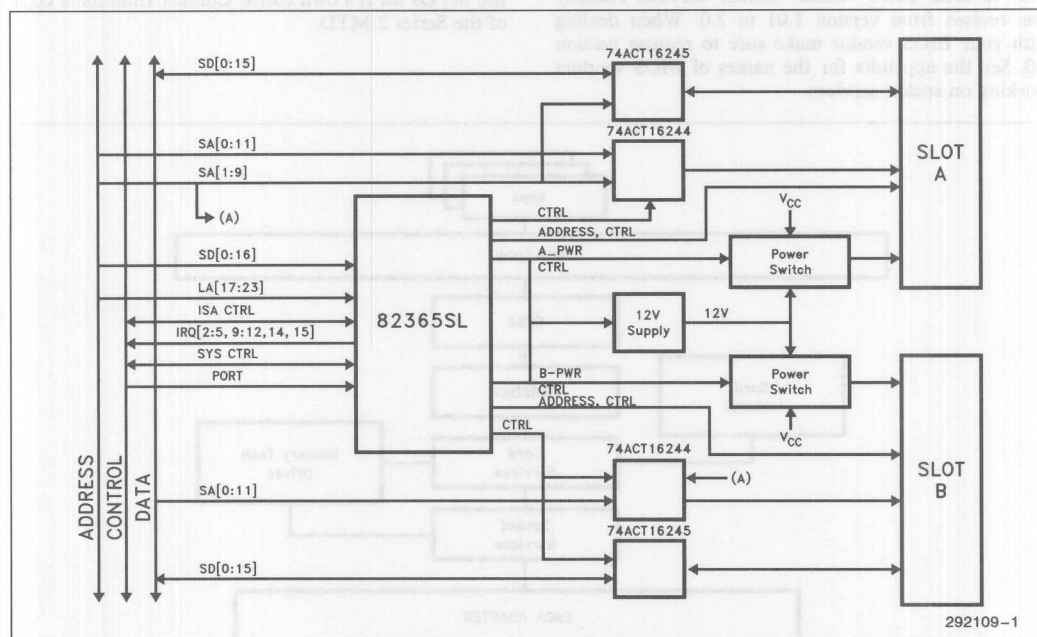

Figure 1. A Buffered, Two-Socket Implementation of the 82365SL
The PCIC interfaces the ISA bus to the PCMCIA socket, and handles interrupt steering, memory and I/O window mapping, and power management. A schematic for creating two fully buffered sockets is found in the 82365SL™ datasheet and is included here as Figure 1.(1)
If the design follows the layout shown in Figure 1, the OEM can upgrade his system to flash cards by adding two pieces of software and two lines to his config.sys file.
If the design does not utilize the recommended hardware implementation shown in Figure 1, but does use the 82365SL PC card controller, then the OEM can take the Intel iCarddrv source code and modify it to their specific hardware.
- 1) The recommended ExCA hardware shown in Figure 1.
Intel's PC Card Kit (order code "PC Card Kit") is the perfect vehicle to assist a card based PC designer. The kit includes the ExCA Developer's Board (block diagram shown in Figure 1), iCardrvl.exe, a 4 MB Series 2 flash memory card, 82365SL diagnostic software, ExCA specification revision 1.1, application notes,
If an OEM implements the ExCA hardware design shown in Figure 1, they can *check out the flash functionality of their box today* by using Microsoft's Beta version of FFS (available from Microsoft) in conjunction with a Carddrv that has been specifically modified by Intel to handle all of the Carddrv, Card Services, MTD, and Socket Services functions. This Carddrv is available from Intel by contacting your local sales office.